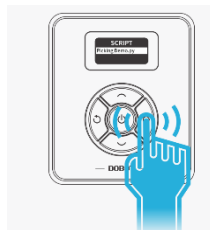

Figure 4.11 Run the script
Step 3 Click **OK** button to run the script, as shown in Figure 4.11.